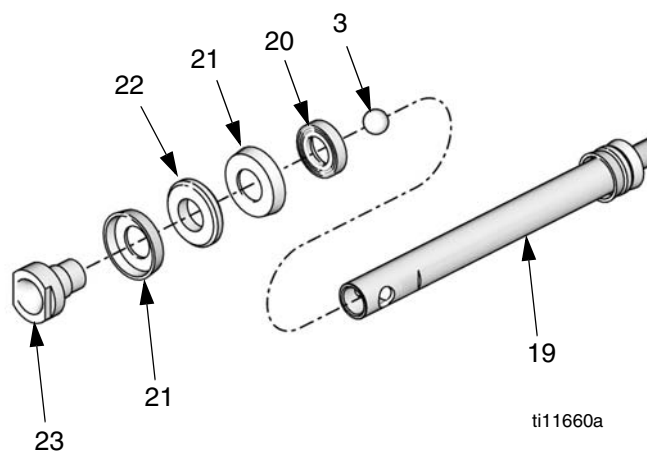

FIG. 16
3. Lubricate the piston seals (21) and bearing (22) with no. 2 lithium-based grease. Install one piston seal (21) with the lips facing down, bearing (22), and second piston seal (21) with lips facing up on the piston (23). Install the backup washer (20) with the grooves facing down. See FIG. 16 on page 18.
4. Place the ball (3) on top of the piston body (23) and screw the piston body and the fluid piston rod (19) together. Torque to 30-35 ft-lb (41-48 N•m). Screw the piston valve housing (29) onto the lower connecting rod (19). See FIG. 16 on page 18.
5. Install the seal (51), with the lips facing down, in the displacement pump frame (36), then install bearing (31).